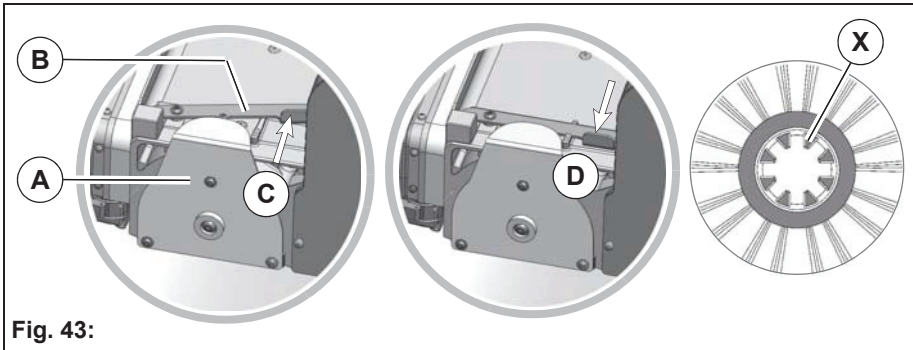

Fig. 43:
3. Unlock the brush holder **Fig. 43-A**:
Press the locking lever **Fig. 43-B** into position **C** and remove the brush holder.
2. Press the locking lever **Fig. 43-B** into position **C** and install the brush holder.